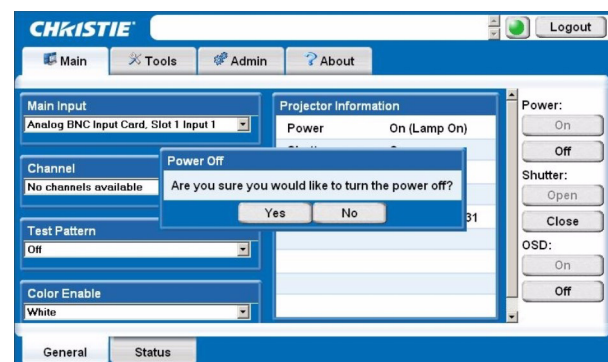

FIGURE 2-18 - POWERING DOWN/WEB USER INTER-
1. From the **Main** Tab, Select **Power>OFF**. **NOTE:** A window will display for confirmation on powering down, see Figure 2-18.